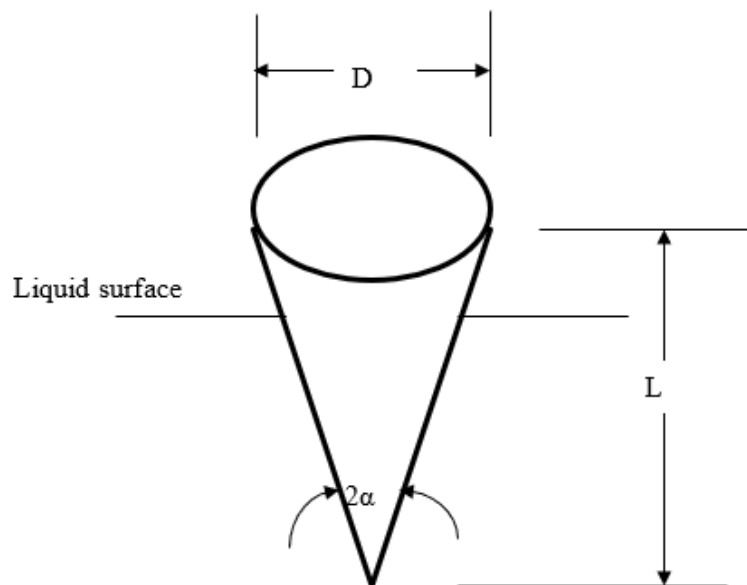

Figure 3
- (b). A solid cone of weight 7.5 kN is floating in oil of specific weight 9.0 kN/m³ as shown in **Figure 3**. Determine the minimum apex angle to ensure that the cone floats with its apex downwards.